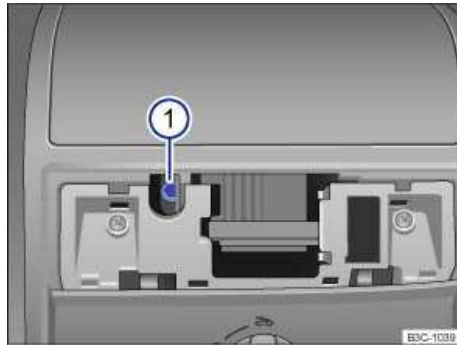

Fig. 201 Hexagonal head screw for closing the power sunroof.
- Insert a commercially available 1/6 in (4 mm) Allen wrench⁸ into the hexagonal head screw ⇒ fig. 201 (1).